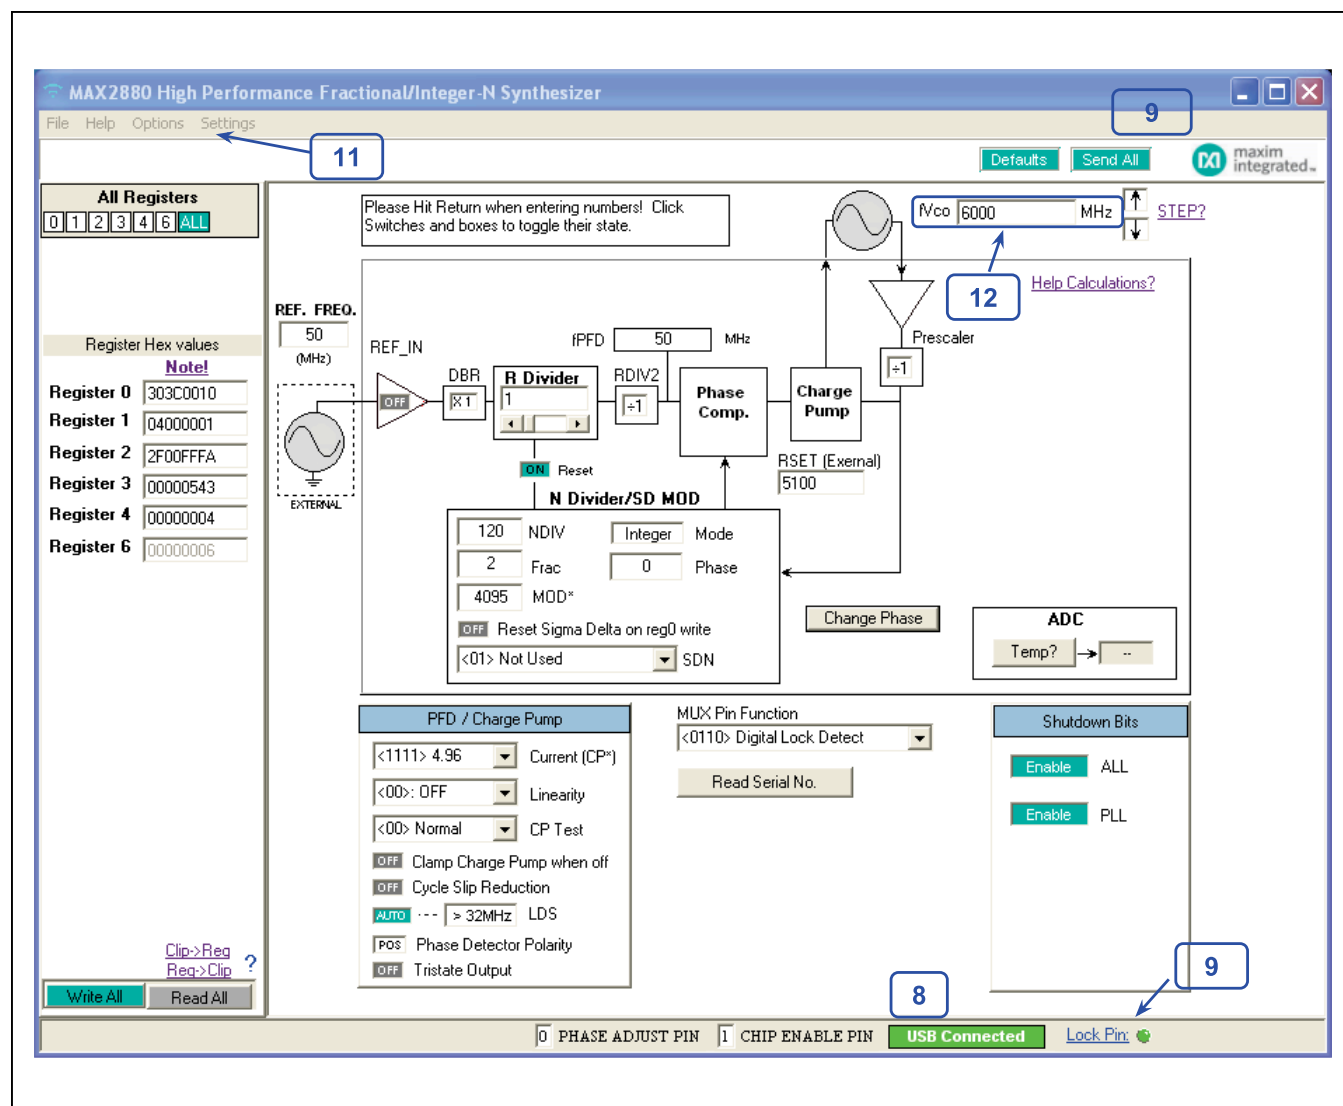

Figure 3. MAX2880 EV Kit GUI
- 8) Run MAX2880.exe to launch the EV kit GUI (Figure 3). In the lower right corner, verify that the **USB Online** box is green.